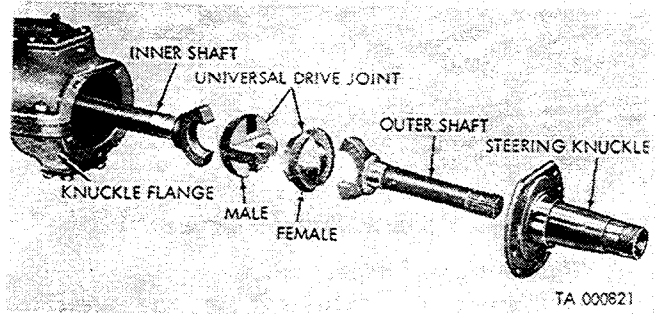

Figure 2-142. Steering knuckle and universal drive
a. *Install Universal Drive, Steering Knuckle, and Brake Support (Fig. 2-142).*